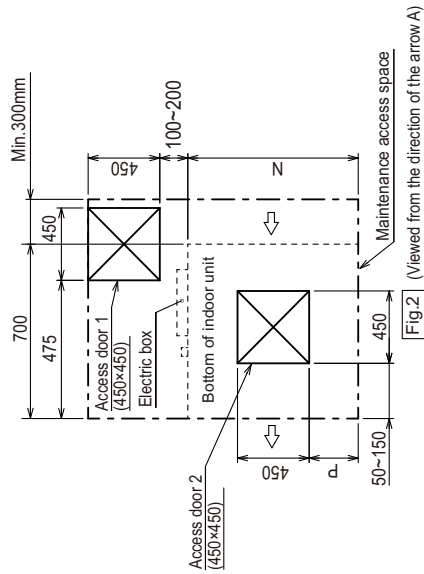
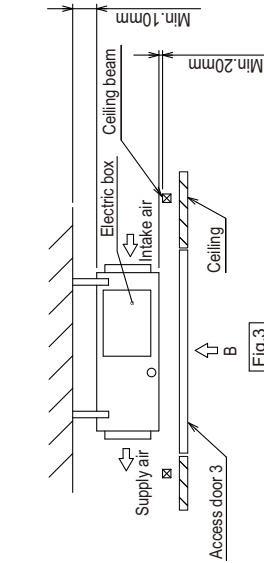

Fig.2
Fig.3
- Create access door 1 and 2 (450x450mm each) as shown in Fig.2
(2) When a space of less than 300mm is available below the unit between the unit and the ceiling.
- (At least 20mm of space should be left below the unit as shown in Fig.3.)